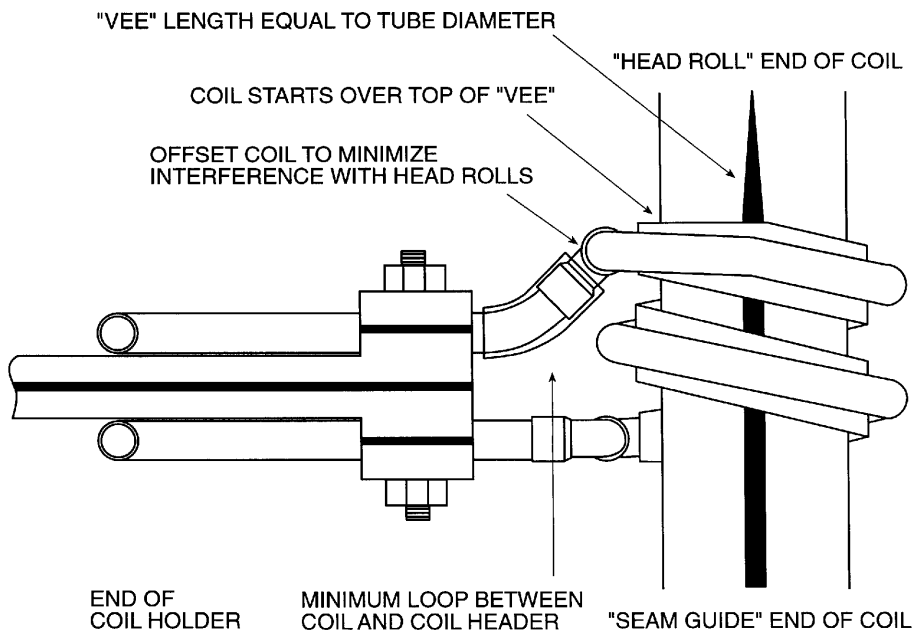
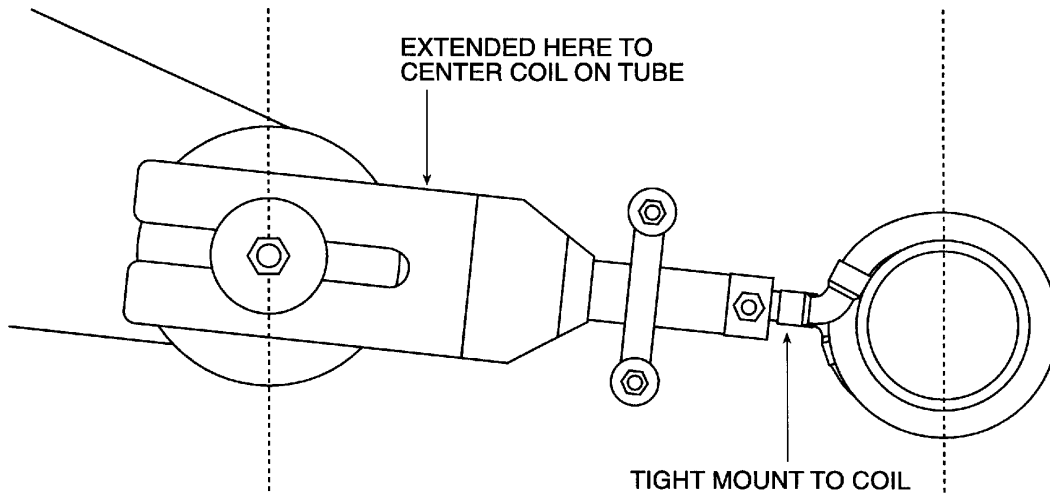

FIGURE 1 - How To Make Good Work Coils
FIGURE 5 - How to Mount the Coil Holder on the Welder's Nose Piece
Because of the lower voltages used in solid state welders, the high voltage coils used with vacuum tube welders generally do not work well with solid state welders. The guide provided in Appendix A shows good starting coil designs for CFI welders. To obtain the best performance, it is important these coils be fabricated to reasonable tolerances, about +/- 0.040 inches. Following the practices below will result in the best coil design. These practices are illustrated in Figures 1 and 2.
The work coil must be mounted in the appropriate coil clamp for attachment to the welder. The best set-up is achieved by following the guidelines below. The correct mounting of the coil holder in the clamp is illustrated in Figures 1, and 2. The correct "Vee" length is shown in Figures 1 and 4, and the correct way to mount the coil clamp to the welder and position the coil around the centerline of the mill is shown in Figures 5 and 6.
- The leads between the clamp and the coil should be made as short as possible. The gap between the coil clamp and the welder's nose piece can be adjusted to center the coil around the pipe or tube. Ideally this gap should be as short as possible, and certainly less than 2 inches (See Figures 5 and 6).